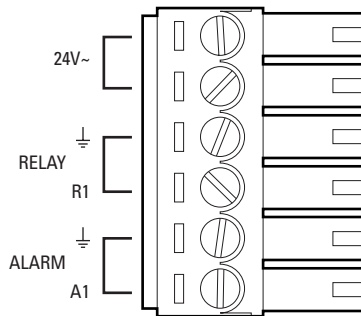

Figure 8. Alarm, Relay, and 24 VAC Connector
1. Connect the alarm, relay, and 24 VAC wires to the supplied mating connector (refer to Figure 8).